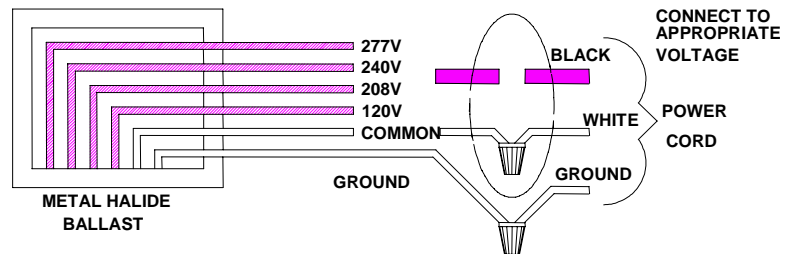

FIG. 4
7. Make wiring connections inside POWERHEAD using WIRE NUTS (local hardware item). Compact fluorescent and incandescent luminaires: Black luminaire lead to hot (black) POWERCORD lead; White luminaire lead to neutral (white) POWERCORD lead. Attach bare copper ground wire attached to BOTTOM PLATE to green ground wire from POWER CORD and BALLAST (if supplied). For metal halide luminaires, refer to wiring diagram in Fig. 4.